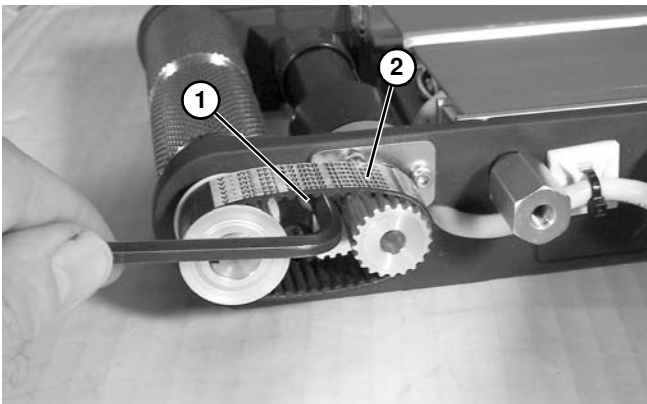

Figure 94
5. Loosen timing belt tension cam (Figure 94, item 1).
6. Remove timing belt (Figure 94, item 2).